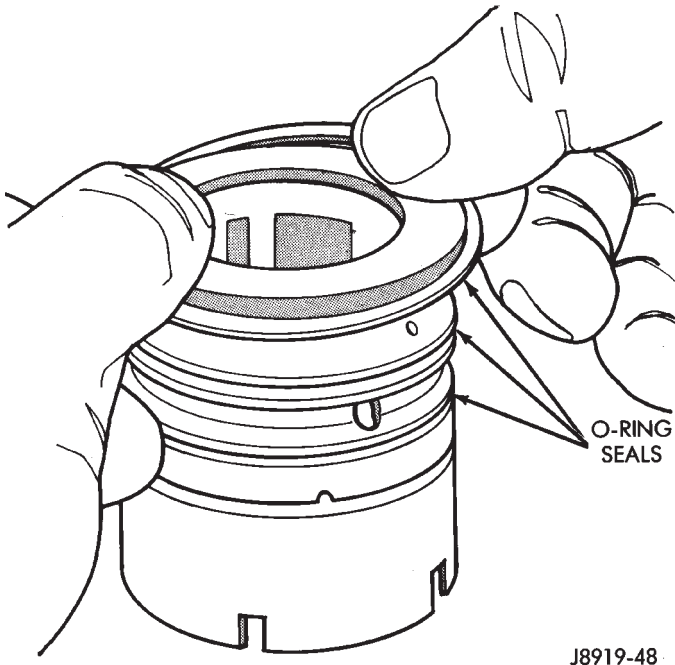

Fig. 14 Valve Seals
(7) Remove spool valve O-ring and valve body teflon rings and O-rings underneath the teflon rings (Fig. 14).
(8) Remove the O-ring between the worm shaft and the stub shaft.